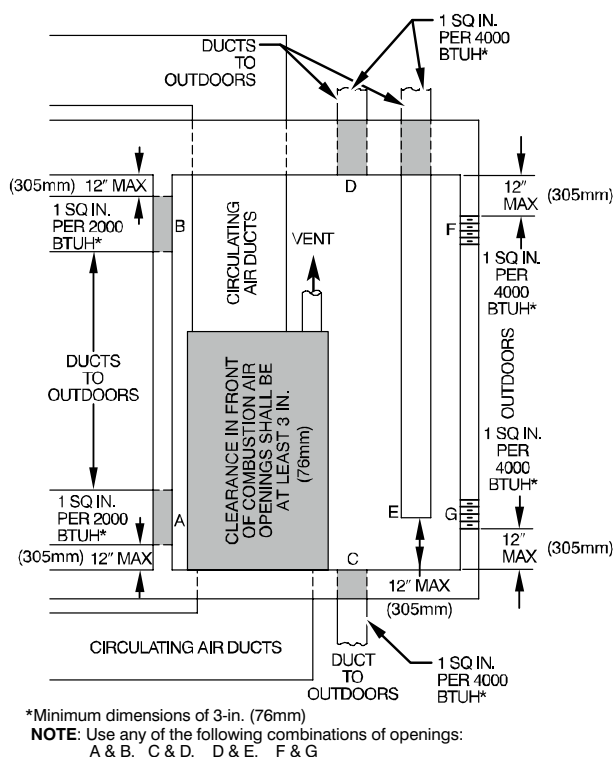

Fig. 6 - Air for Combustion, Ventilation, and Dilution for Outdoors
2. Fig. 6 illustrates how to provide **TWO OUTDOOR OPENINGS**, one inlet and one outlet combustion and ventilation air opening, to the outdoors.
- b. Size openings and ducts per Fig. 6 and Table 3.
- c. **TWO HORIZONTAL DUCTS** require 1 sq. in. (645 sq. mm) of free area per 2,000 Btuh (1,100 mm²/kW) of combined input for all gas appliances in the space per Fig. 6 and Table 3.
- d. **TWO OPENINGS OR VERTICAL DUCTS** require 1 sq. in. (645 sq. mm) of free area per 4,000 Btuh (550 mm²/kW) for combined input of all gas appliances in the space per Fig. 6 and Table 3.
- a. 1 sq. in. (645 sq. mm) of free area per 3,000 Btuh (734 mm²/kW) for combined input of all gas appliances in the space per Fig. 6 and Table 3.